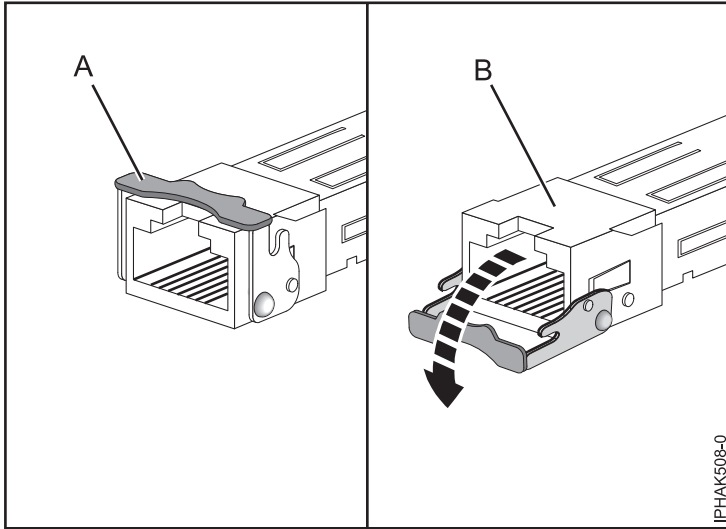

Figure 77. Removing SFP transceivers from adapters
- b. Open the latch (A) by rotating it down and away from the card as shown in Figure 77 on page 85.
- c. Slide the transceiver (B) out of the adapter hardware.